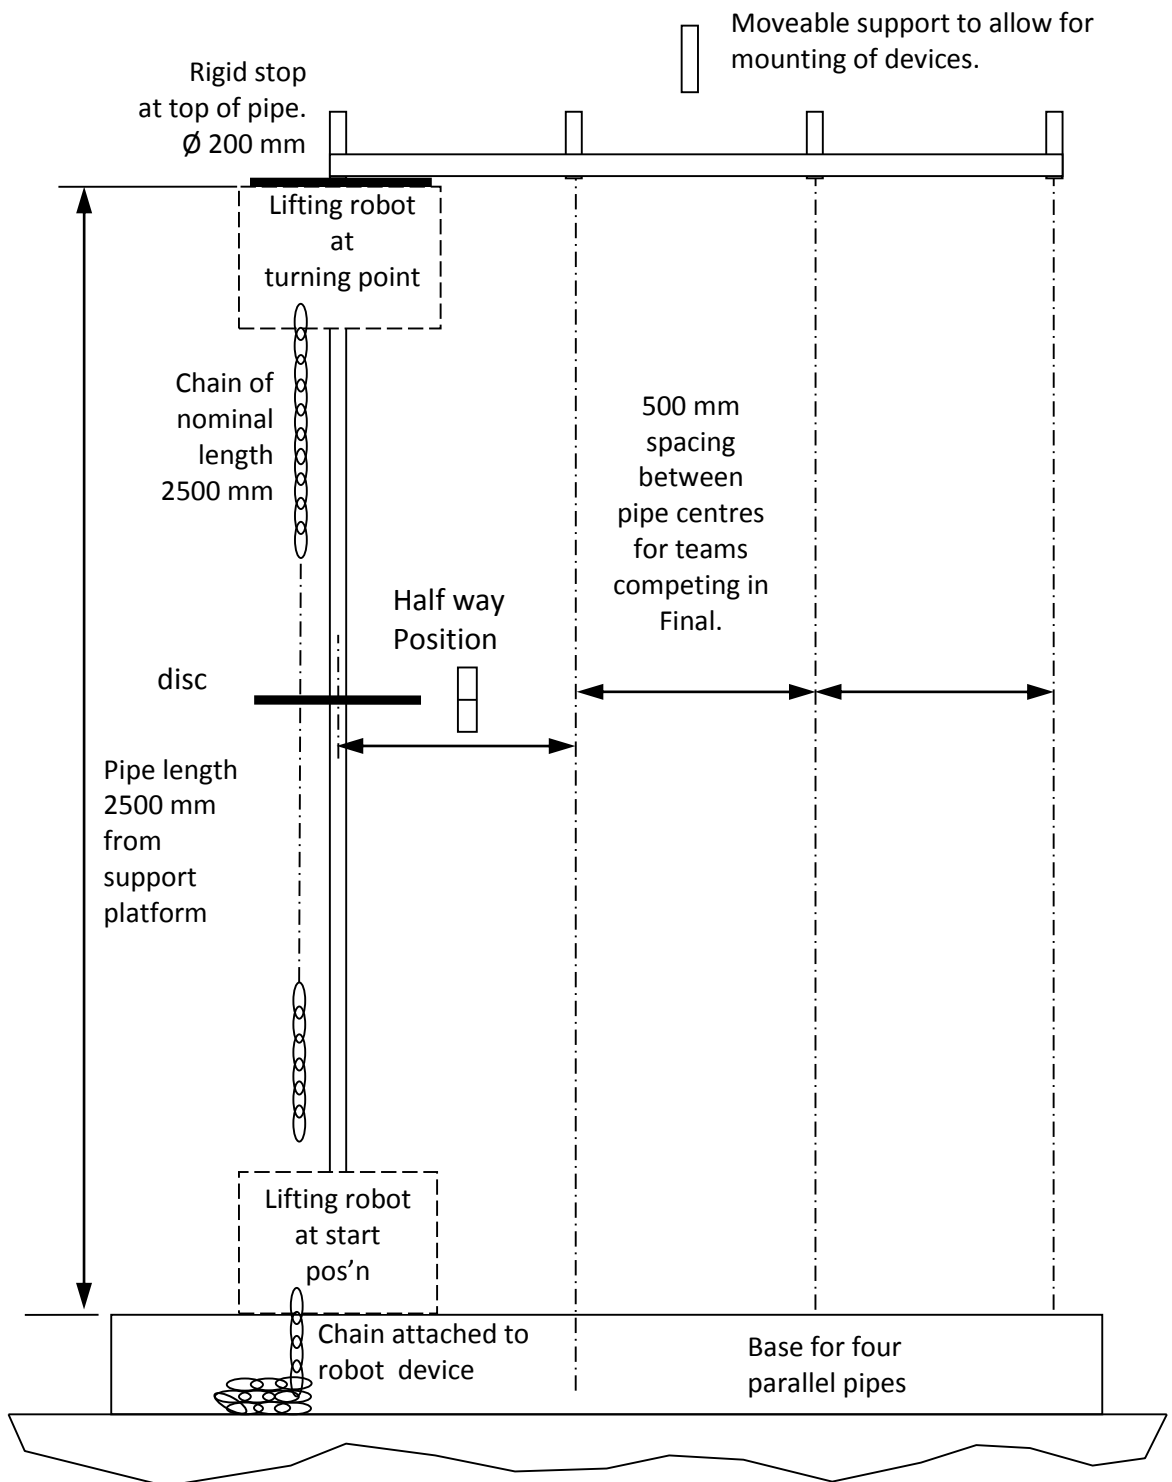

Figure 1. Schematic of design challenge rig
A schematic of the rig to be used in the Design Challenge is shown in Figure 1 below. Key features include:
- c) The test area will consist of four identical pipes to allow for simultaneous runs of up to four robots, as per Figure 1. Each pipe is made from standard copper domestic plumbing pipe 15 mm diameter and has an exposed length of 2500 mm. At the start of each run, one nominated student (the "human robot controller") from the team will fit the robot onto the bottom of the pipe before starting. The robot must have a single easily-accessible starting switch.